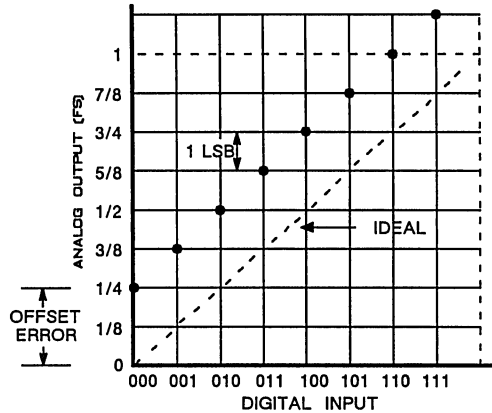

Figure 5. An Offset Error of +2 LSB
**Offset Error.** Figure 5 shows the result of offset error. The transfer function is parallel to the ideal but offset by 2 LSBs. (For a unipolar 12-bit converter, 1 LSB =  $V_{REF} / 4096$ ).